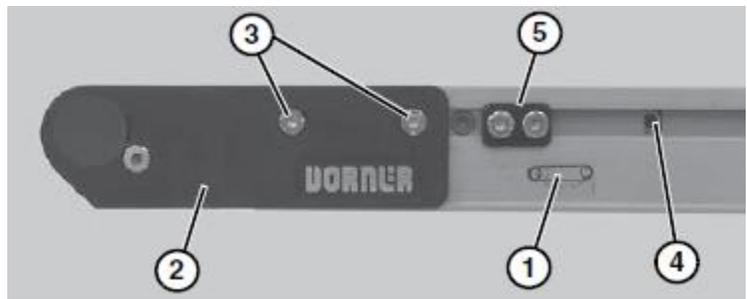

Figure 4-1
- On tension end of the conveyor, identified with a label (Figure 4-1, item 1), adjust head plate assembly (Figure 4-1, item 2): On both sides of conveyor, loosen fastening screws (Figure 4-1, item 3) and rotate pinion gear (Figure 4-1, item 4) to adjust head plate assembly.
After adjusting proper tensioning, tighten fastening screws (Figure 4-1, item 3) on both sides of conveyor to 60 in-lb (7 Nm).
- If equipped with cam tracking assemblies (Figure 4-1, item 5), position against head plates and adjust belt tracking. Refer to “Tracking and Side-Rail Alignment”.